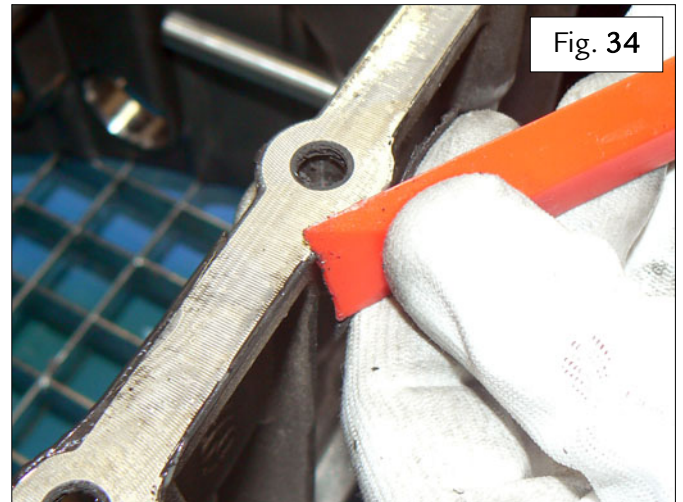

Fig. 34
- Using a Teflon spatula, remove all traces of sealant from the surfaces of the differential housing and the surfaces of the connector casing – Fig. 34.